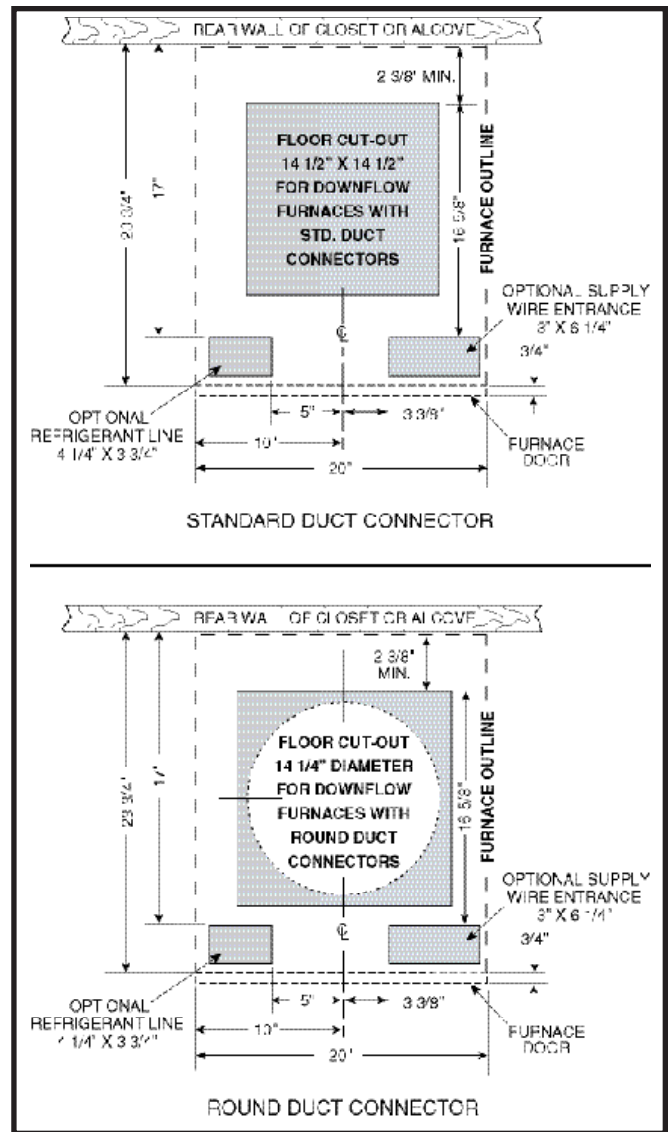
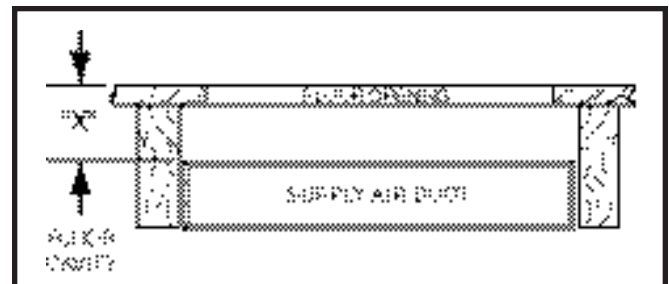

Figure 5. Cut-Out Dimensions for Downflow Furnaces
Figure 6. Floor Cavity
Floor cut-outs must be carefully located to avoid misalignment of the furnace and air duct. Standard and round cutouts for upflow furnaces are shown in Figure 5. The cutouts for downflow furnaces are shown in Figure 6..
2. Using the centerline as a starting point, draw the rest of the duct cut-out to the dimensions shown in Figure 5 or Figure 6.